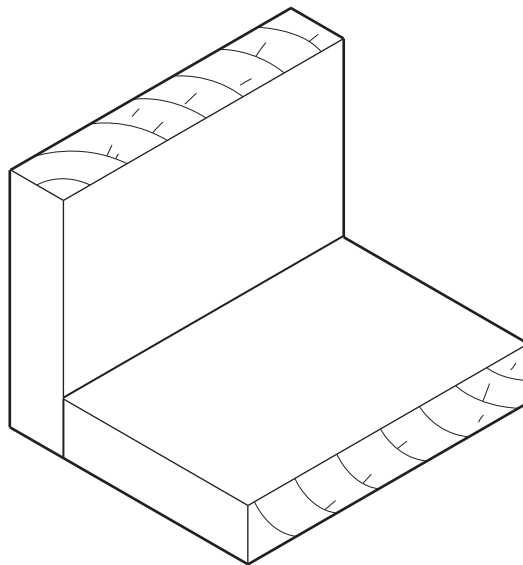

Fig. 3.1
- 3 Fig. 3.1 shows two pieces of hardwood that are to be joined by means of a KD (Knock-Down) fitting.
Add sketches and notes to Fig. 3.1 to show how a suitable KD (Knock-Down) fitting could be used to join the hardwood together. [3]